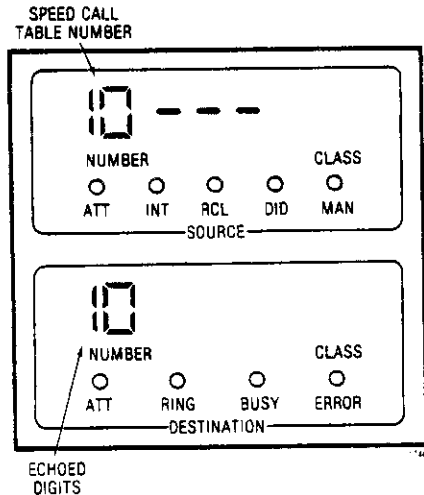

Fig. 242-1 Typical Entry Displays
- DESTINATION display shows number entered (Fig. 242-1)
- When a subsequent key operation occurs the number is transferred to the SOURCE display and three hyphens appear as shown in Fig. 242-1)